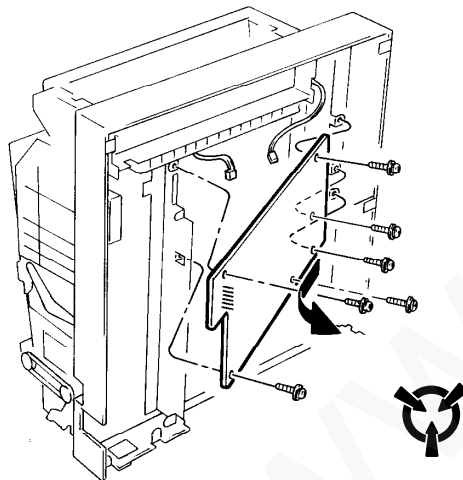

Figure 1. HV power supply
4. Remove the six screws retaining the HV power supply to the chassis (figure 1).